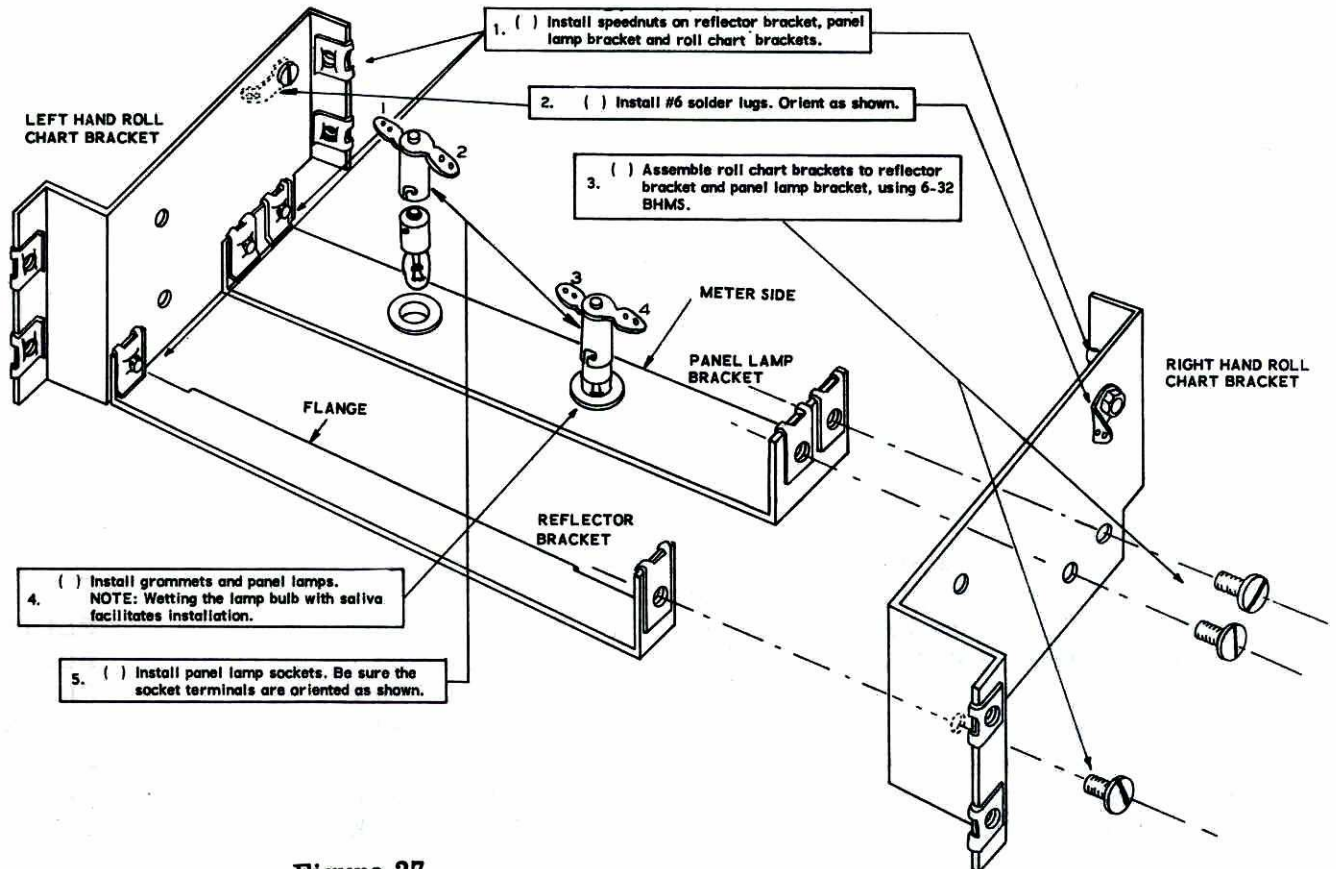

Figure 27
- () Assemble the roll chart brackets, as shown in Figure 27. Note that the two panel lamp holes in the panel lamp mounting bracket are not centered in the bracket. Position the bracket in such a way that the panel lamps are closest to the meter. When installing the speednuts, be sure the nut is pushed all the way onto the flange. When correctly positioned, the speednut will drop into place with a "snap".